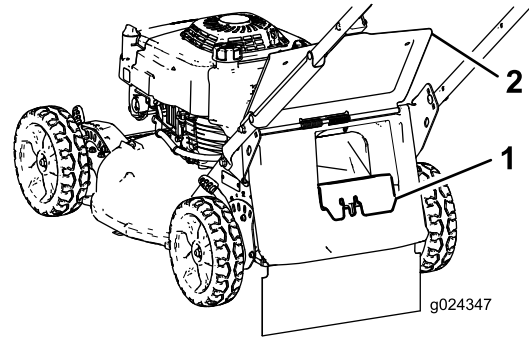

Figure 17
- If the rear-discharge plug is not installed, grip it by the handle, raise the rear deflector, and insert it into the rear-discharge chute until the latch locks into place (Figure 17).
3. Remove the rear-discharge plug by pushing in the latch with your thumb and pulling the plug out from the machine (Figure 17).